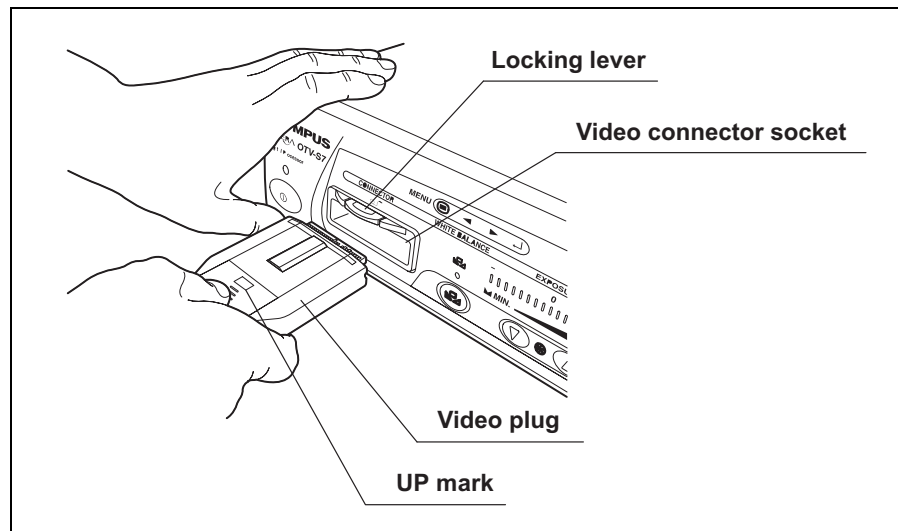

Figure 3.14
4. Hold the OTV-S7V stationary with one hand. With the other hand, push the video plug into the video connector socket until it clicks (see Figure 3.14).